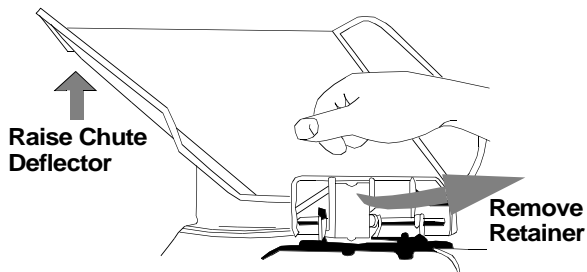

Figure 7
- Push the chute deflector up and towards the engine. Holding the deflector in this position, remove the retainer. See Figure 7.